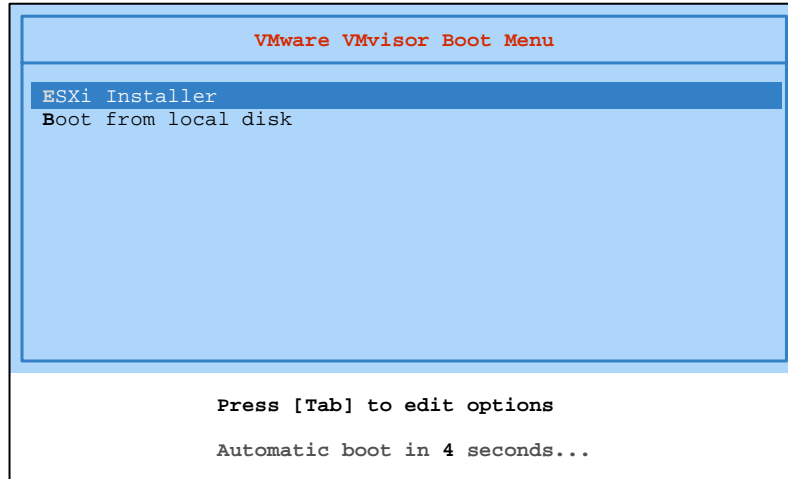

Figure 6-59 Installing ESXi 4.1 Installable edition
8. Press the Tab key when the blue boot panel appears, as shown in Figure 6-59 on page 279.